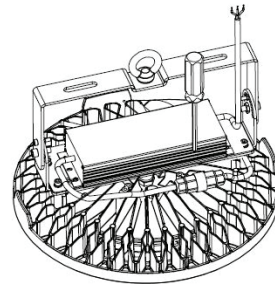

Figure 19
1. Device which is used to fix the i-connector head with an internal hexagon screw driver, and then remove the R-type fixing device as shown in Figure 19.